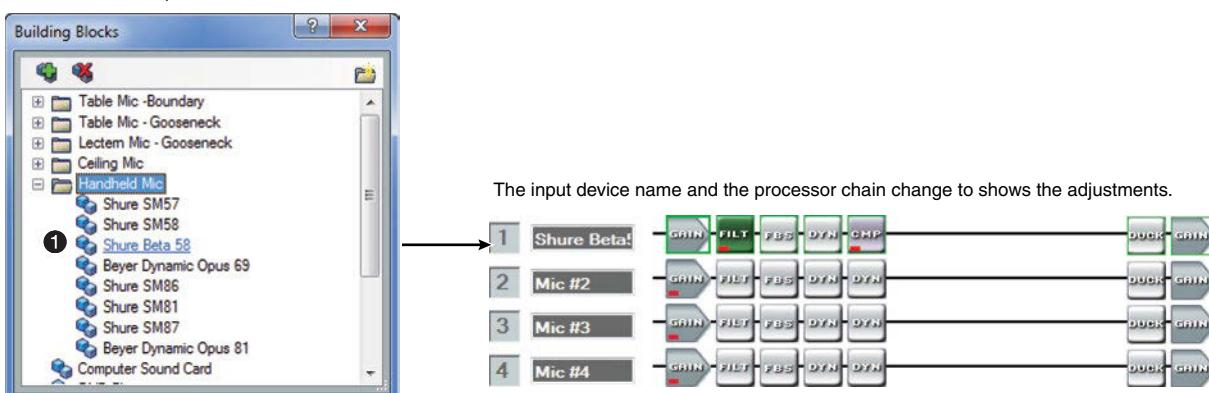

Figure 66. Selecting a Building Block
- 2. Select the desired building block:** Click **Shure Beta 58** (see figure 66, ①). The input channel loads the pre-configured processor blocks, sets the gain, and renames the channel Shure Beta 58.